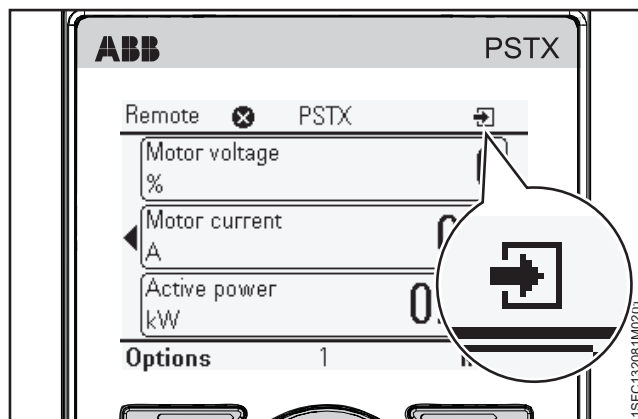

Figure 6.11
2. Service profile. See **Figure 6.11**